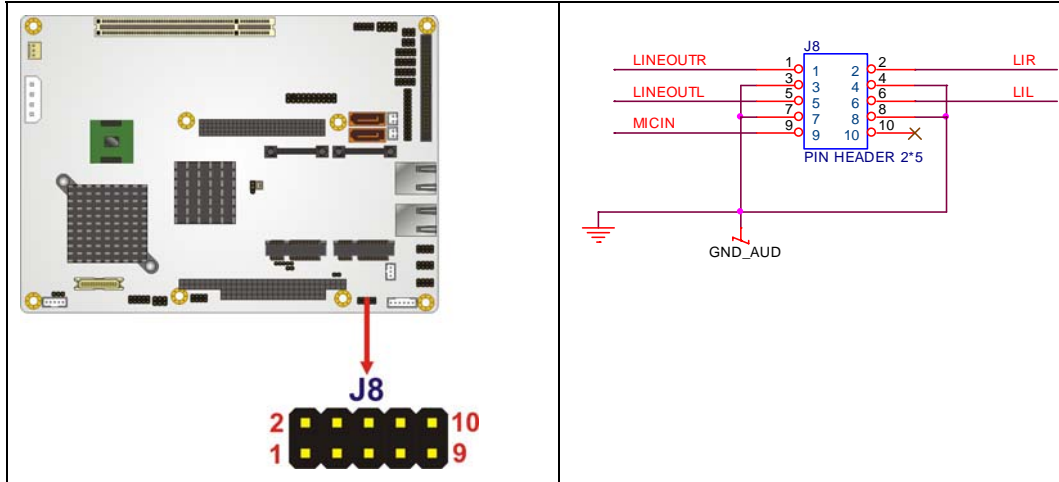

Figure 4-5: Audio Connector Location (9-pin)
- CN Location:** See Figure 4-5